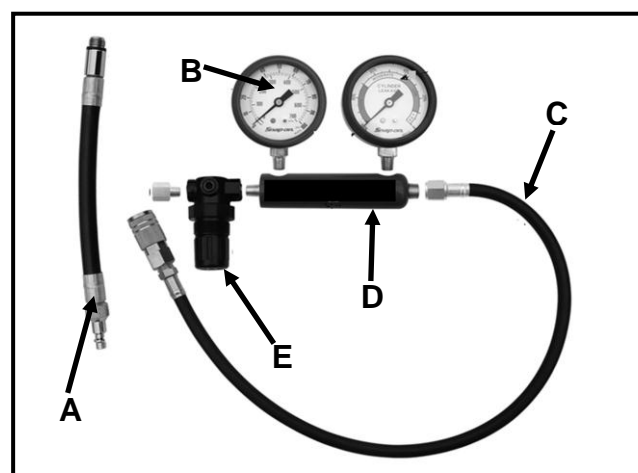

FIGURE 5.3
- 5.3 FIGURE 5.3 below shows a cylinder leakage tester. Answer the questions that follow.